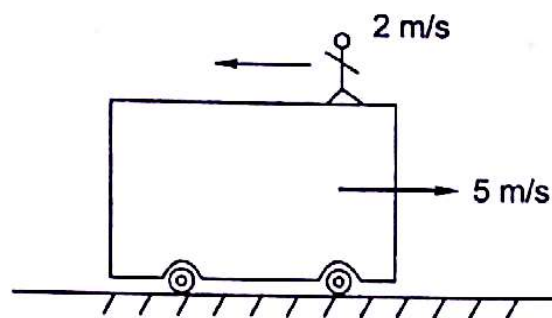

Fig. 20.10
- 20.1 A trolley of 600 kg can move along a horizontal frictionless track, as shown in Fig. 20.10. Initially the trolley with a man on it of mass 70 kg is moving towards right at a speed of 5 m/s. If the man starts walking on the trolley with a speed of 2 m/s towards left, what is velocity of travel?